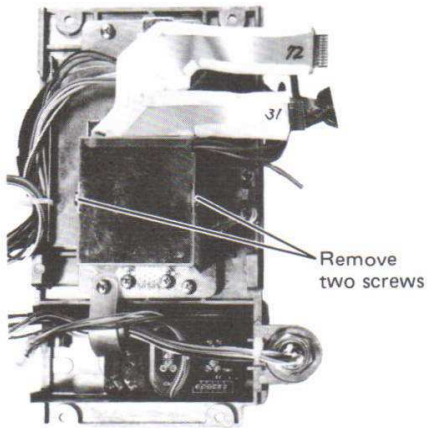

Fig. 3-7
- Remove two screws holding the shield plate (M10) and remove the shield plate. (Fig.3-7)